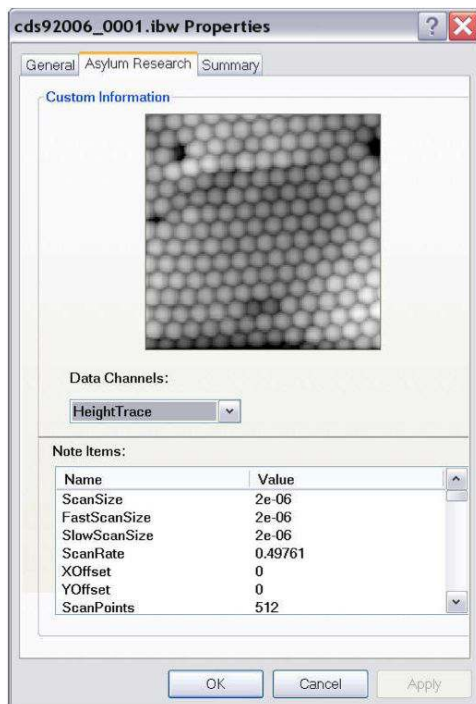

Figure 1.4.: AR thumbnail viewer extension for Windows.
2. A panel similar to Figure 1.4 on page 13 will appear. The Asylum Research tab will have a larger thumbnail of the stored image, and the lower portion of the panel has the pertinent scan parameters.